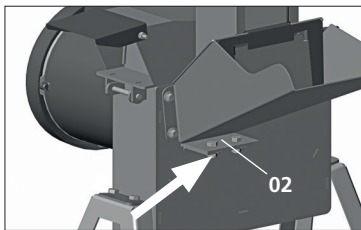
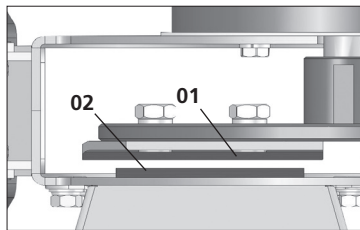

Fig. 20
Fig. 21
Loosen the hex nuts as shown [Fig. 20] and move the counter blade (2) until the blades (1) are approximately 1 mm away from the counter blade (2), [Fig. 21].